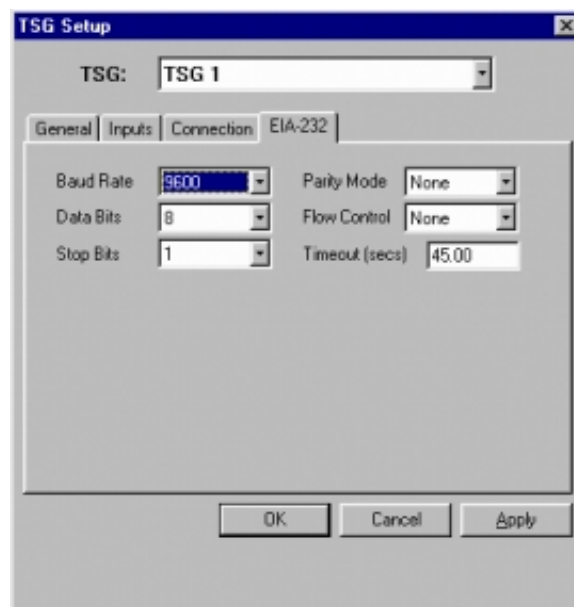

Figure 2-30. TSG Setup dialog box
- *EIA-232*: Use the options on the *EIA-232* tab of the *TSG Setup* dialog box (Figure 2-30) to configure communications parameters for a computer with an EIA-232 serial card. To do this, you must know the communications settings for each TSG before starting.